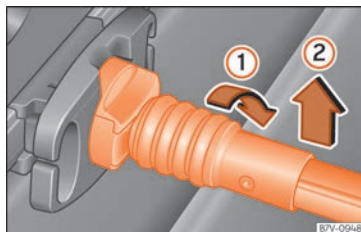

Fig. 148 Release the baggage net
- Rotate the attachment rod 90° to the right » » » Fig. 148 ① until you can see the red mark on the rod. Pull the attachment rod upwards ②.